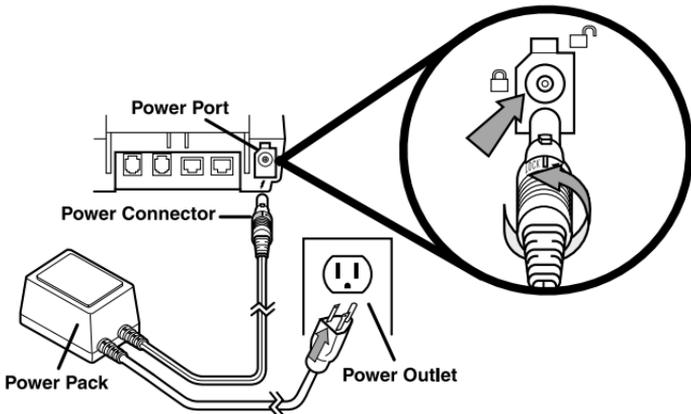

Figure 15 Omni 3210 Power Pack Connection
1. Plug the three-pronged plug on the end of one power pack cable into an electrical power outlet (see Figure 15).
2. Insert the round female type connector on the end of the other power pack cable into the Power port on the back of the terminal (see Figure 15). The Power port is identified by the icon shown to the right.